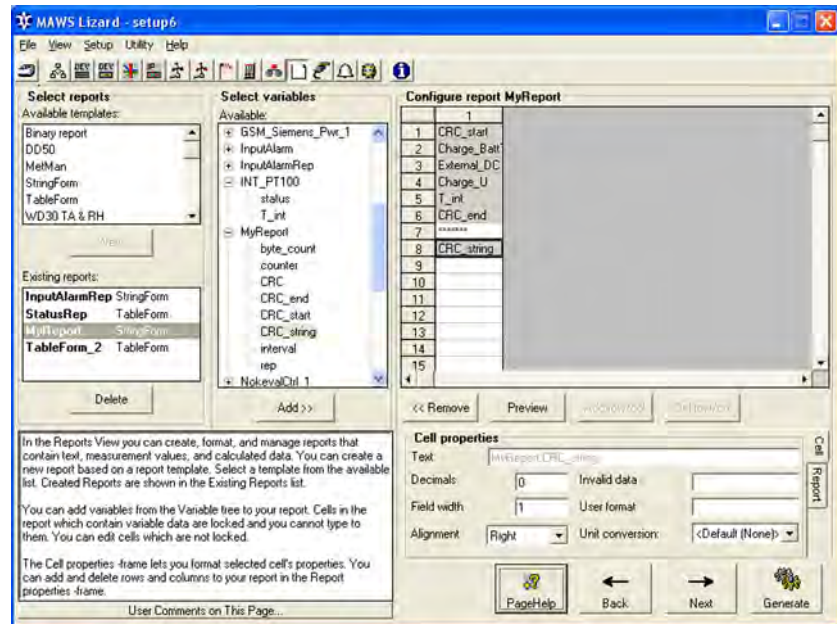

Figure 106 Reports View: Adding CRC
1. Go to the **Reports** view as shown in Figure 106 on page 205.